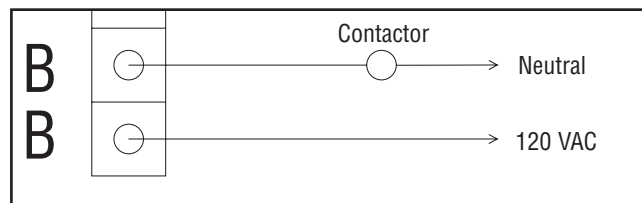

Figure 6 — Terminals "B-B"
- Terminals "B-B" on control module are rated for 1 Amp 125 VAC and installer supplied contactor to control a large load. Example: electric hot water heater. Contacts are connected in series with the contactor control circuit (Figure 6).